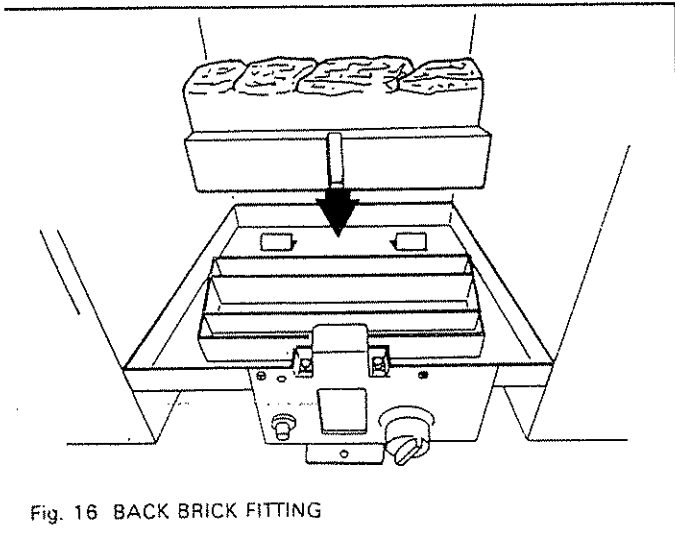

Fig. 16 BACK BRICK FITTING
7.7.1 Fit the back brick into the rear compartment of the burner unit (see fig. 16).